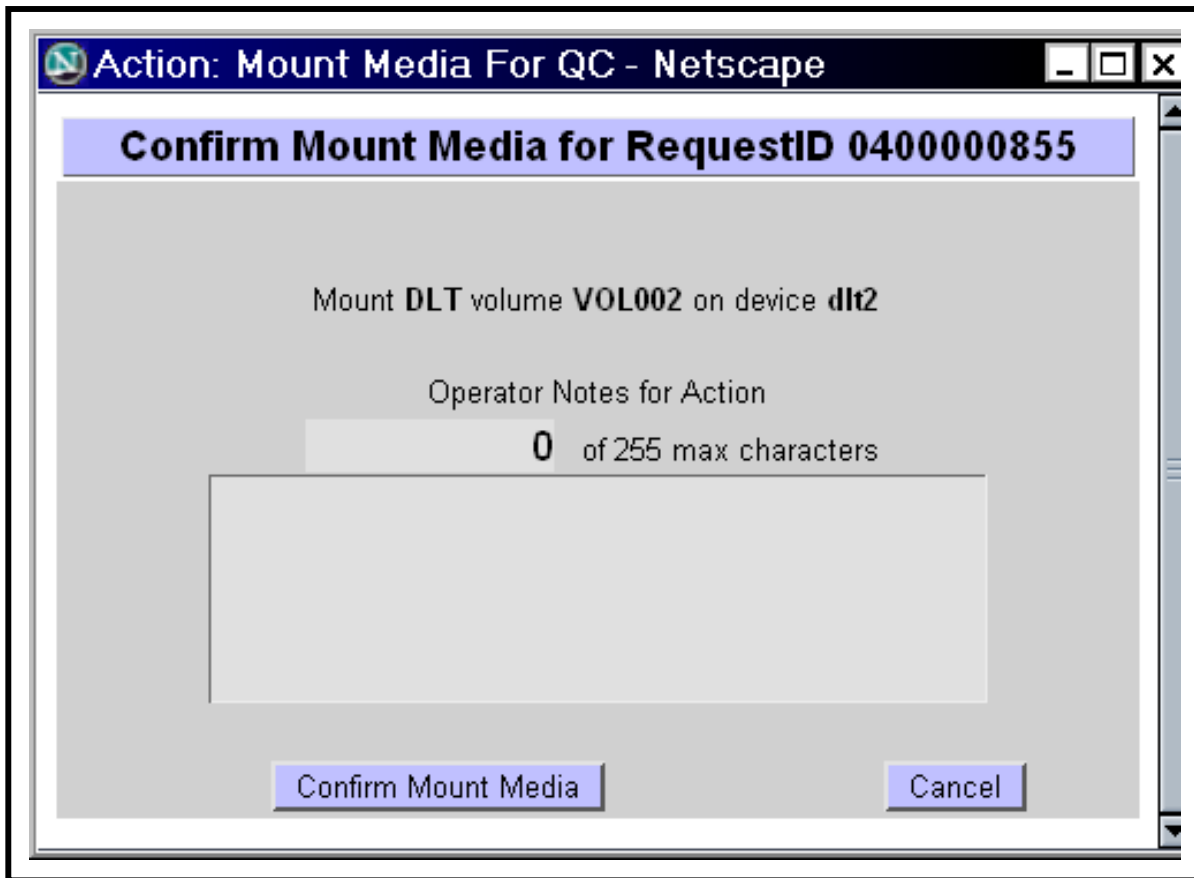

Figure 94. Confirm Mount Media Page
The **Confirm Mount Media** page (Figure 94) provides the full-capability operator with a means of confirming media mounting for the next volume of the request. The full-capability operator has the option of annotating the action.
- A **Confirm Mount Media** dialogue box (Figure 94) is displayed.